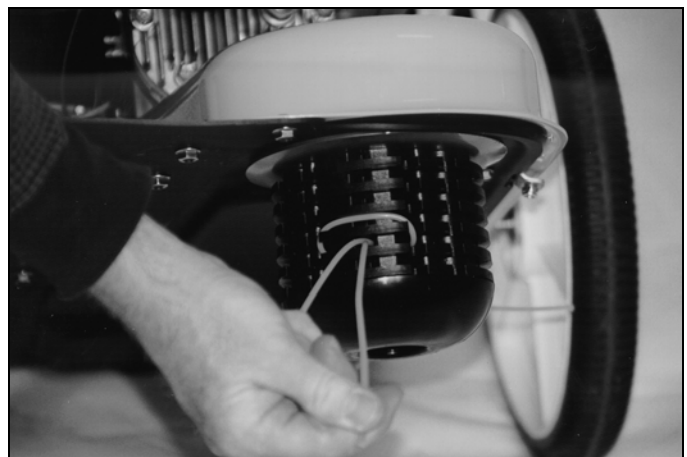

Figure 13
3. Pull the cords through the loop and push the loop up into the line plate groove above them, as shown in Figure 13. Then pull the cords tight.